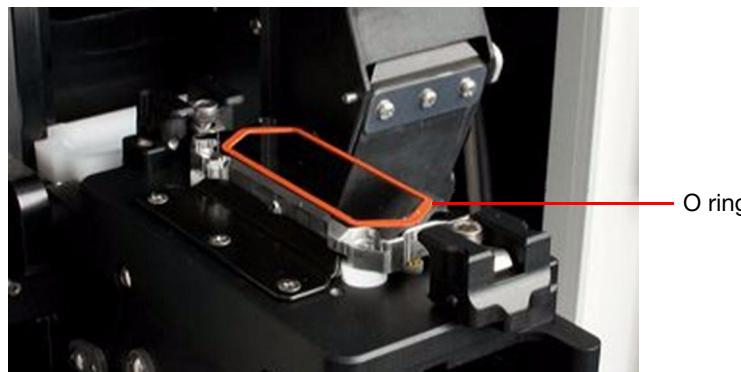

Figure 21 O-ring installed on flowcell.
6. Inspect the O-ring and reseat it if necessary (see Figure 21; for details, see “Install the SOLiD™ flowcell O-ring” on page 99). Check the O-ring for cuts and abrasions. If any abnormalities are observed, replace it. Inspect the O-ring grooves for debris or contamination and clean with water as needed.